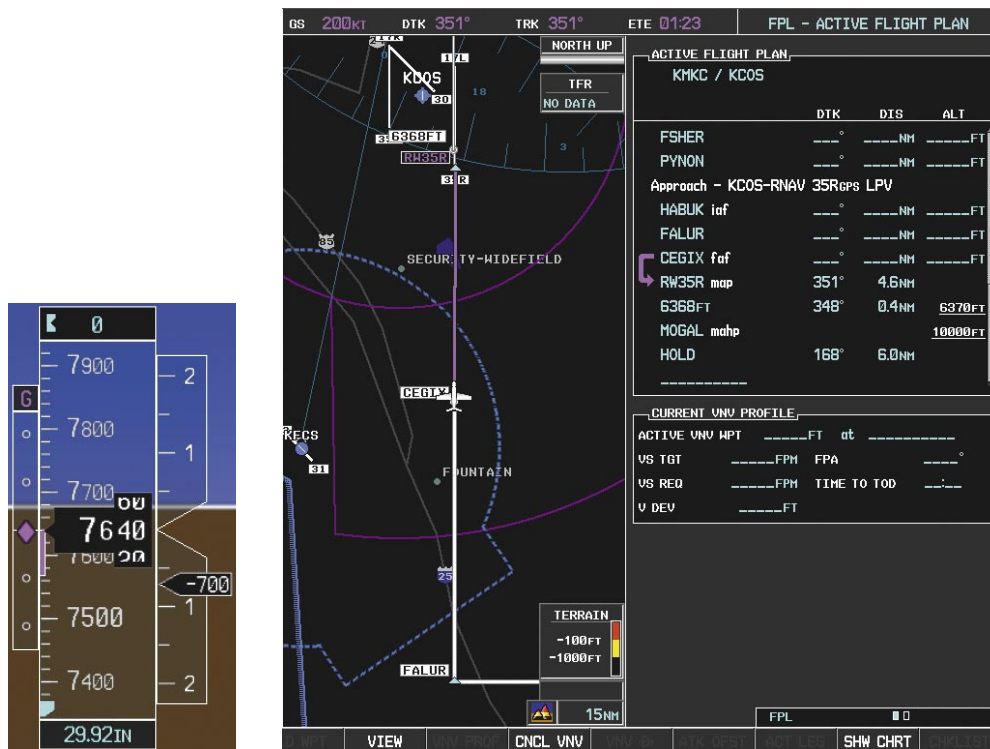

Figure 5-138 Descending to the Missed Approach Point
- 24) After crossing CEGIX, the aircraft continues following the glidepath to maintain the descent to "AT or ABOVE" 6,370 feet at the Missed Approach Point (MAP) (RW35R) as seen in Figure 5-138.